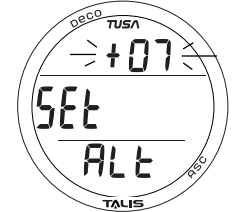

Fig. 16 - SET ALTERNATE TIME
**Set Alternate Time (Differential)**, information includes (Fig. 16):